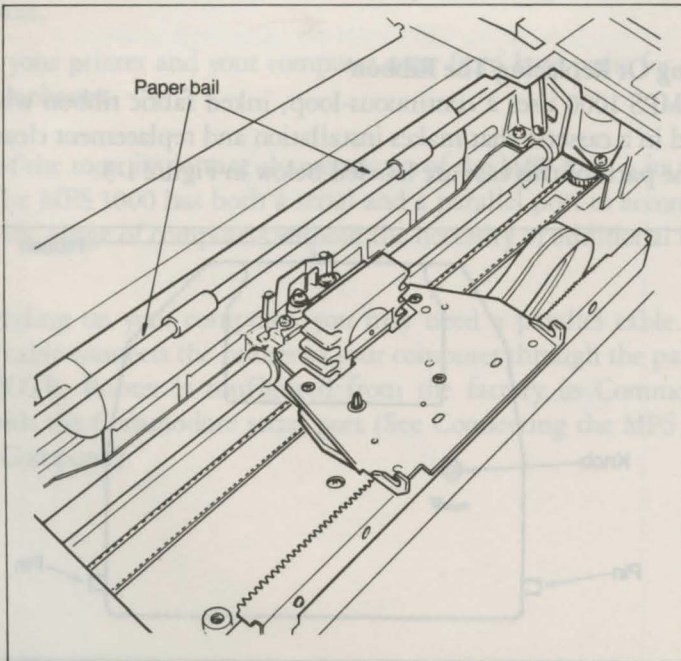

Figure 1-4. Print head assembly
4. Hold the new ribbon cassette so that the small knob is on top and the exposed ribbon faces away from you. Fit the cassette onto the ribbon carriage by sliding the pins at the back of the cassette under the small hooks on the carriage. See Figure 1-4 below.